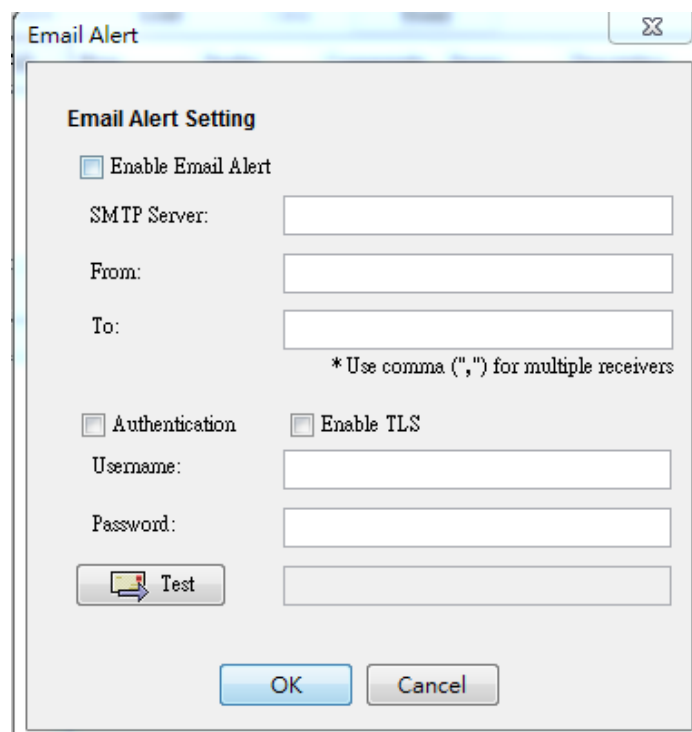

Figure 13-3
- **Email:** displays an “Email-Alert Settings” dialog box (see Figure 13-3). Fill the “SMTP server”, “From (email address)” and “To (email address)” fields. The “From” and “To” addresses must be valid in the SMTP server. If the SMTP server requires authentication, please enter the username and password. Once entering needed information, click the Test button to verify if your email works properly.